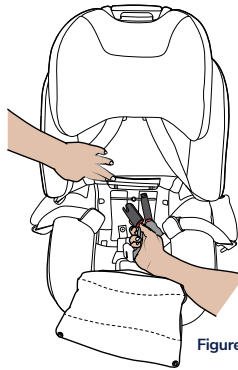
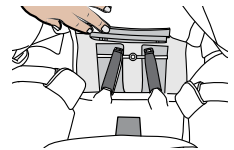

Figure 21
Figure 22
Step 1. Open ISOGO storage compartment door and lock the ISOGO connectors to the rod provided inside (Figure 21). Ensure connectors face outwards for ease of storage.
Step 2. Store all straps and tension indicators in compartment (Figure 21) with belt adjusters positioned at base of compartment as shown (Figure 22).